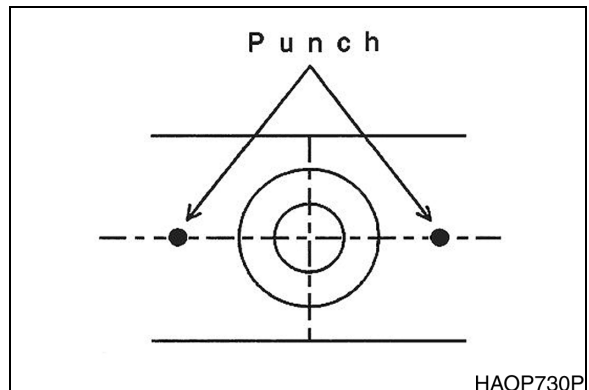

Figure 84
- C. After inserting needle cage (22) inside No. 2 planetary gear (13), assemble to No. 2 carrier so that it is between side plate (19).
- D. Insert No. 2 pin (16) into No. 2 carrier.
- E. Insert spring pin (37) into holes of No. 2 carrier and No. 2 pin. Tighten using a punch at both locations as shown in Figure 84.